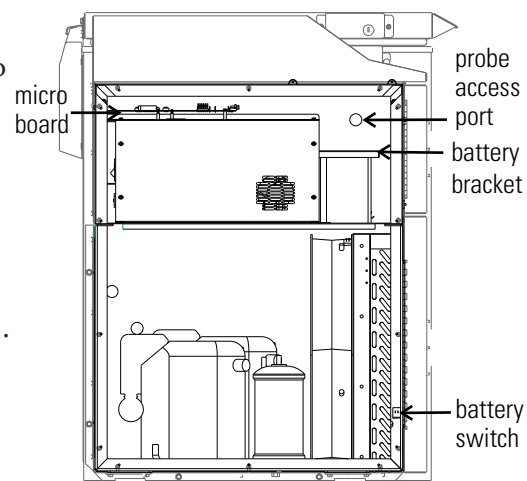

Figure 5-1. Battery and Switch location
3. Turn off the battery switch (O). See Figures 5-1 and 5-2.
9. Turn the battery power switch to Standby mode (C).
2. Locate the battery power switch (Figure 5-1). Turn the battery power switch to the Off position (O).
4. Remove the three nuts securing the battery bracket. See Figure 5-1.
All Models except 3 cu ft (Figure 5-1):